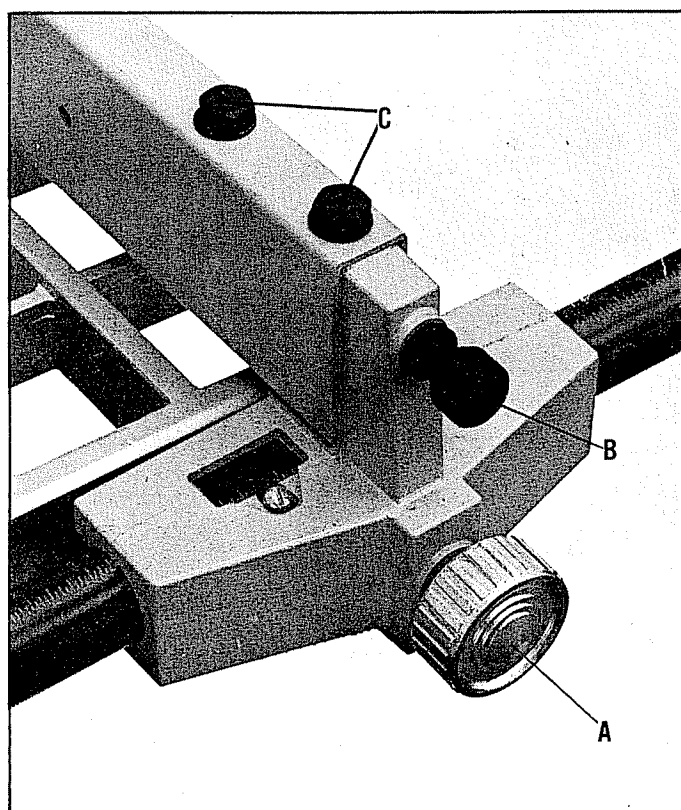

Fig. 12.
6. The blade is set parallel to the miter gage slot at the factory. The fence should be adjusted so it is parallel to the miter gage slot. To check the rip fence, set it at one of the miter gage slots. Tighten the front lock knob (A) and rear lock knob (B) Fig. 12. The fence should then line up parallel with the miter gage slot. If an adjustment is necessary loosen the fence adjusting screws (C) and rear lock knob (B) Fig. 12. With the front lock knob (A) still tight move back end of fence to the right or left lining it up to the miter gage slot. Then tighten rear lock knob (B) and fence adjusting screws (C).